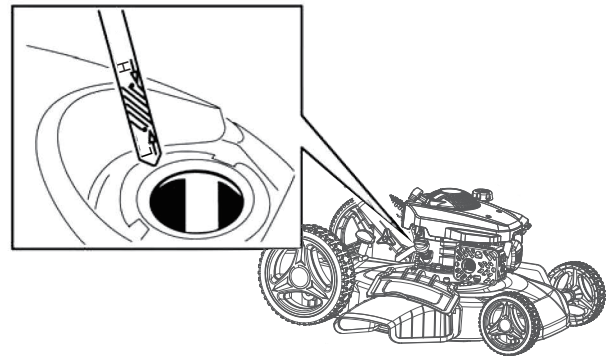

Figure 3
1. Remove the dipstick.(Figure 3)